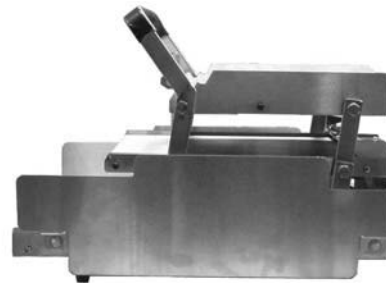

Figure 20
- 3 Replace side covers when finished. (See **Figure 20**.)